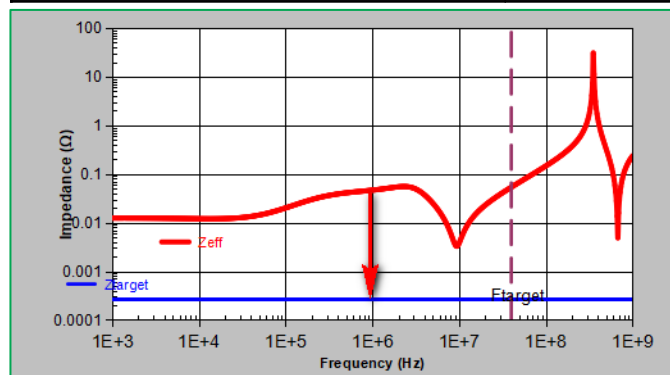

Figure 2. A Real Project PDN Impedance Design
- ✓ The calculated Z_{target} is extremely low as illustrated in Figure 2